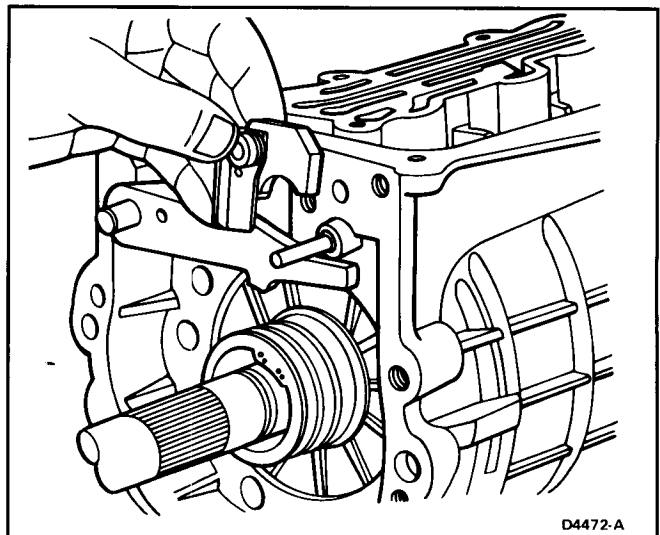

FIG. 15 Guide Plate—Installation
- Install the guide plates with one bolt as shown in Fig. 15. Tighten to 10 N·m (88 lb-in).